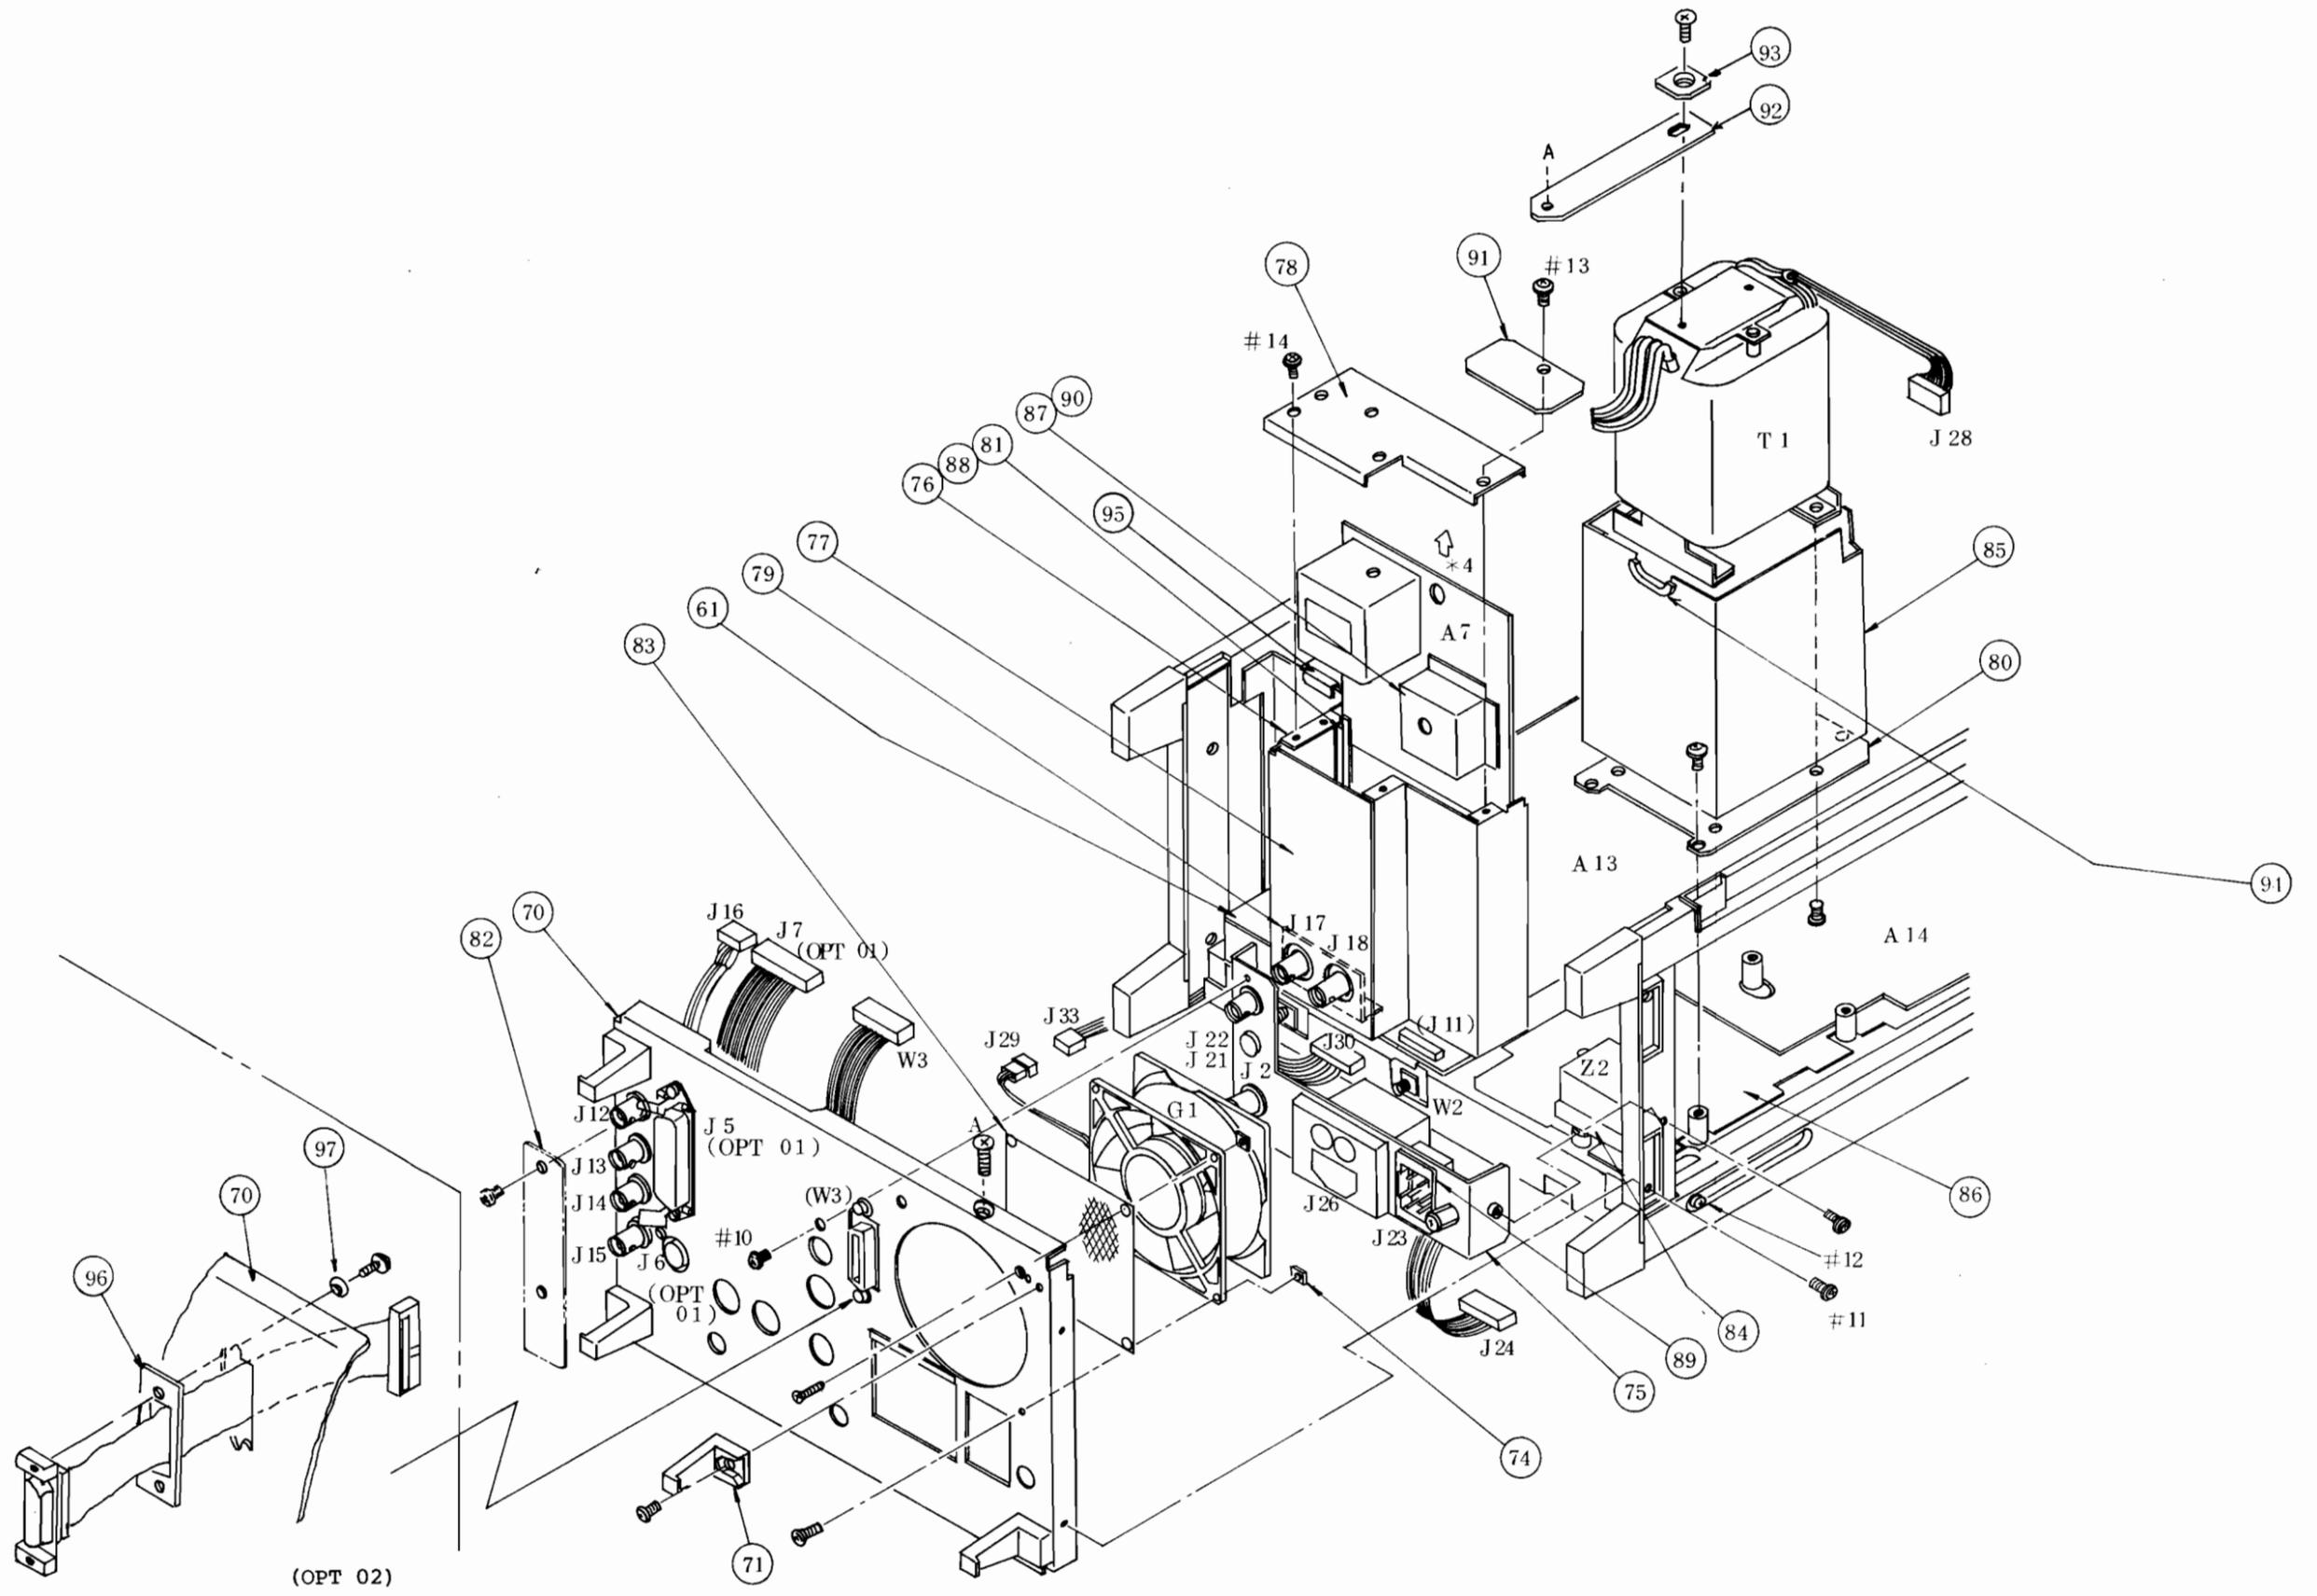

Fig. 2-4 Rear Panel Removal
2	Remove the rear panel (70) as described below by referring to Fig. 2-4. <ol style="list-style-type: none"><li data-bbox="472 657 1469 732">1) Remove the screw #10 at the center of the rear panel.<li data-bbox="472 770 1449 844">2) Remove the four screws (two at each side) #11 at the sides of the rear panel.<li data-bbox="472 883 1490 957">3) Remove the connectors J29, J16, J7 (OPT 01) and W3 connected to each unit.<li data-bbox="472 995 1449 1070">4) Remove the rear panel by sliding it backwards little by little.
2	Remove the A7 REF OSC as described below by referring to Fig. 2-4. <ol style="list-style-type: none">1) Remove the screw #13 and then the clamp (91) .2) Remove the three screws #14 and then remove the cover (78) .3) Pinch the part marked with *4 with pliers and lift it up.
2	Remove the screw #13 and then remove the clamp (91) by referring to Fig. 2-4.
Table 2-4 Mechanical Parts List for Fig. 2-4